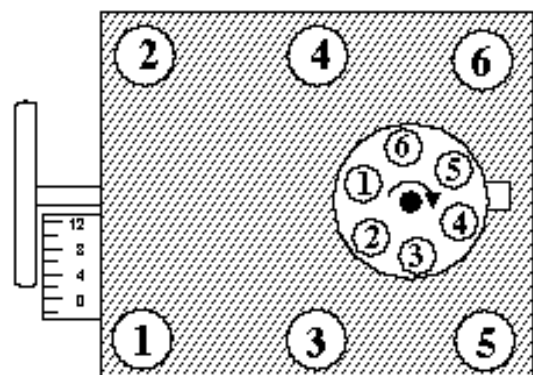

Figure 2—Firing Order—1-6-5-4-3-2
1. Turn the engine over in direction of rotation until the No. 1 intake valve closes and continue until the pointer on the front cover is approximately five degrees before top dead center (BTDC). See Figure 2 for firing order.